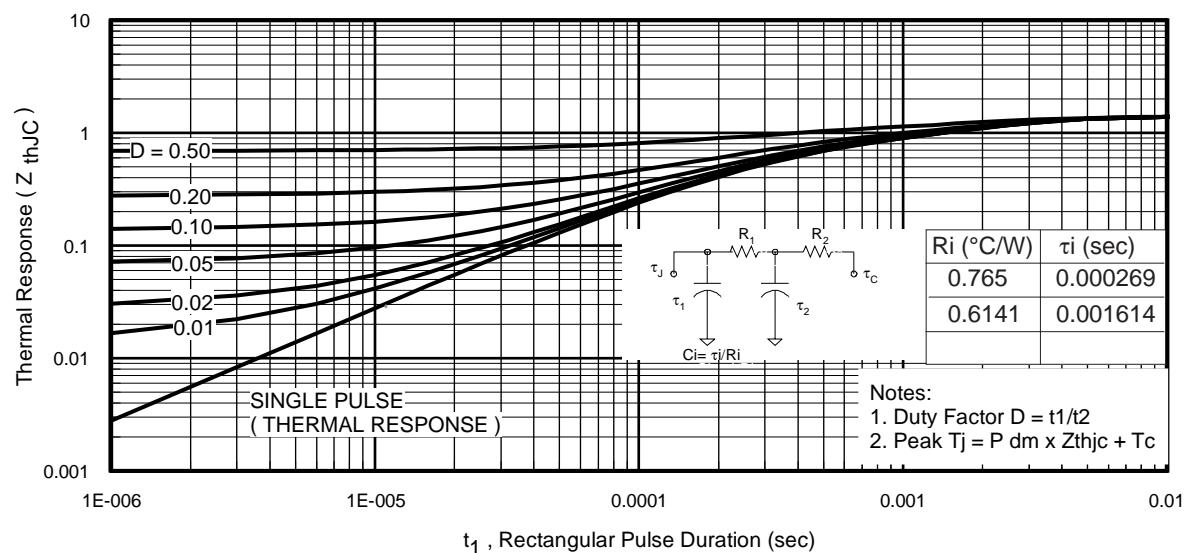

Fig 11. Maximum Effective Transient Thermal Impedance, Junction-to-Case
- $Z_{thJC}(D, t_{av})$ = Transient thermal resistance, see figure 11